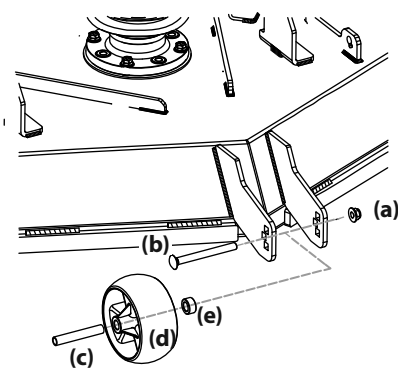

Figure 12
6. Remove the lock nut (a) securing one of the front gauge wheels to the deck. Remove the shoulder screw (b), tube spacer (c) and shoulder spacer (e) to remove the wheel (d). See Figure 12.